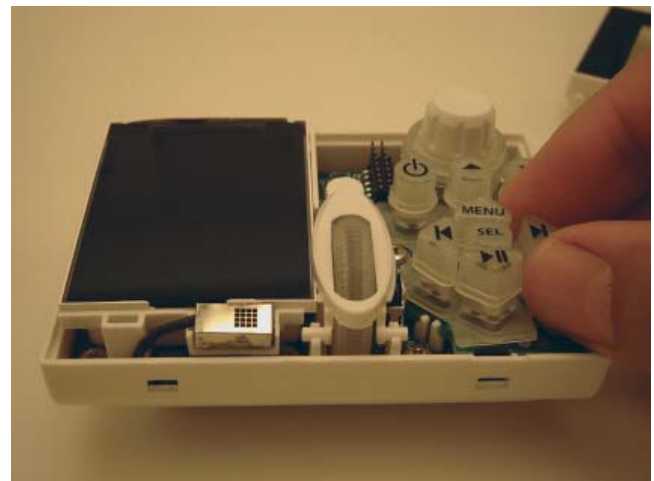

Figure 9
3. With the faceplate fully removed, the hard button keycaps can be changed. Carefully pinch the top of the keycap and slowly pull it straight up and off the rubber membrane as shown in **Figure 9**. Try not to pull the membrane off the green circuit board. If the membrane does come loose, be sure to replace it to its normal position, seated flat on the green circuit board. If the membrane is not properly seated, the keycaps will not fit properly through the openings in the faceplate and the keypad will not function.